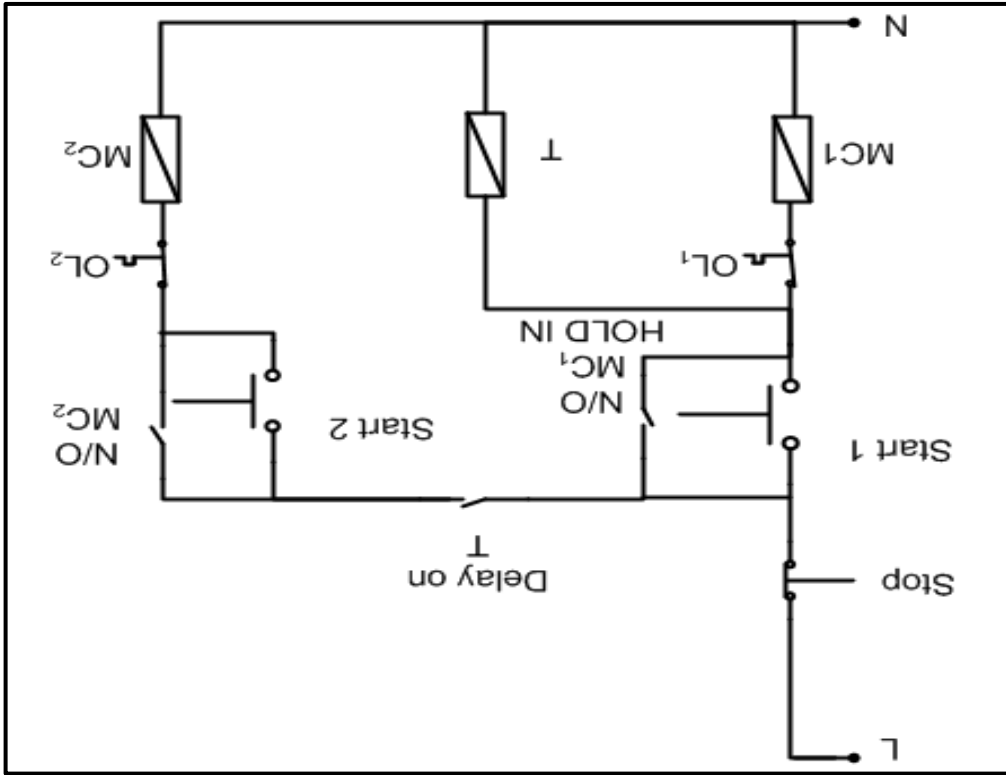

FIGURE 6.1: SEQUENCE STARTER WITH A TIMER
- 6.4 Refer to the circuit in FIGURE 6.1 below. (8)
- 6.4.2 Name ONE electrical application of FIGURE 6.1. (1)